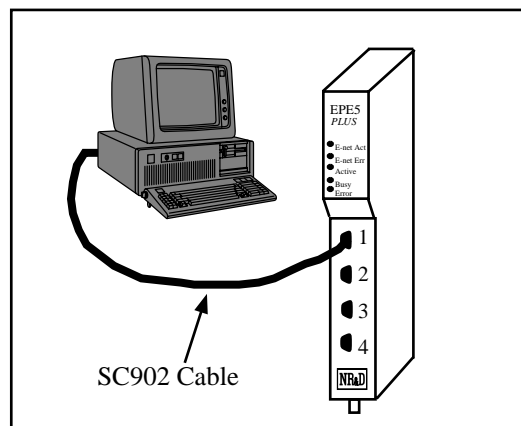

Figure 23-17 EPE5 Firmware Download
- 6 Connect the personal computer to the Port 1 of the EPE5. An SC902 cable provides a convenient method for the RS-232<->RS-422 conversion. (See Figure 23-17)